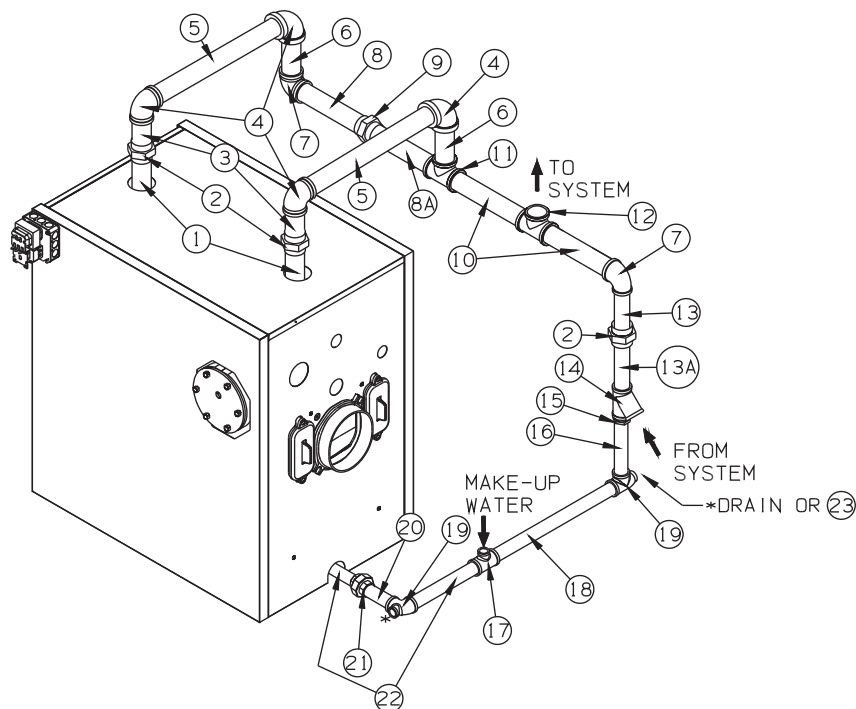

FIGURE A.4: Dropped Header Gravity Return Diagram for FSZ160
- 2) Assemble Dropped Header Gravity Return Piping Kit for the FSZ160 as shown in Figure A.4.